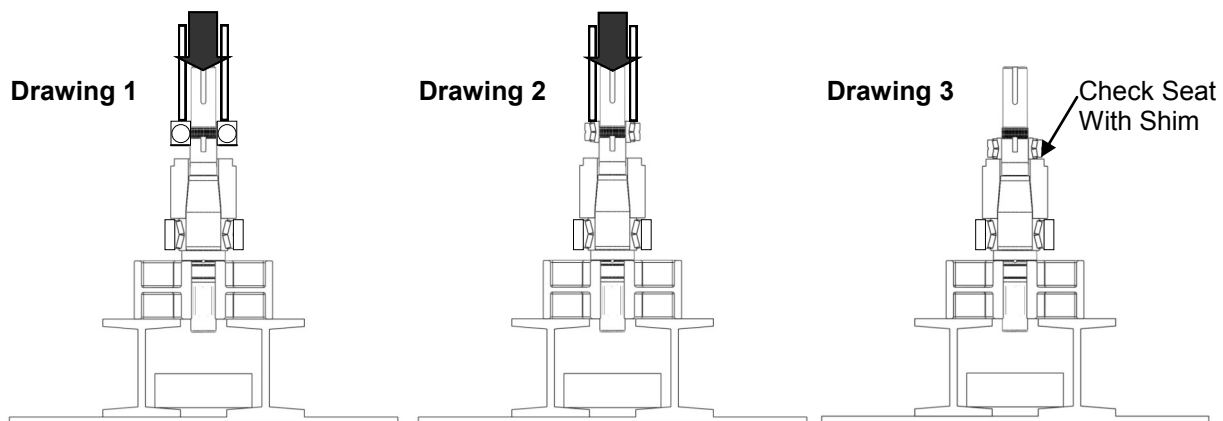

Figure 44: Pressing Rear Bearing onto Shaft
- For pump models with single ball bearings apply a light coat of lubricant on the shaft. Open the new rear bearing assembly and place it over the shaft above the bearing spacer with the shielded side of the bearing facing the spacer (Figure 44, Drawing 1). Press the bearing on pressing only on the inner race.
- For pump models with tapered roller bearings, apply a light coat of lubricant on the shaft. Open the new rear bearing assembly and do not interchange any parts. Place the rear bearing over the shaft above the bearing spacer (Figure 44, Drawing 2). Reference Table 5 for the required force (in tons) needed to press the bearing onto the shaft. Using a sleeve that rests on the inner cone of the bearing and rides over the shaft, press the bearing on until it seats against the spacer.
Make sure the bearing is rested on the bearing spacer using a shim (Figure 44, Drawing 3)